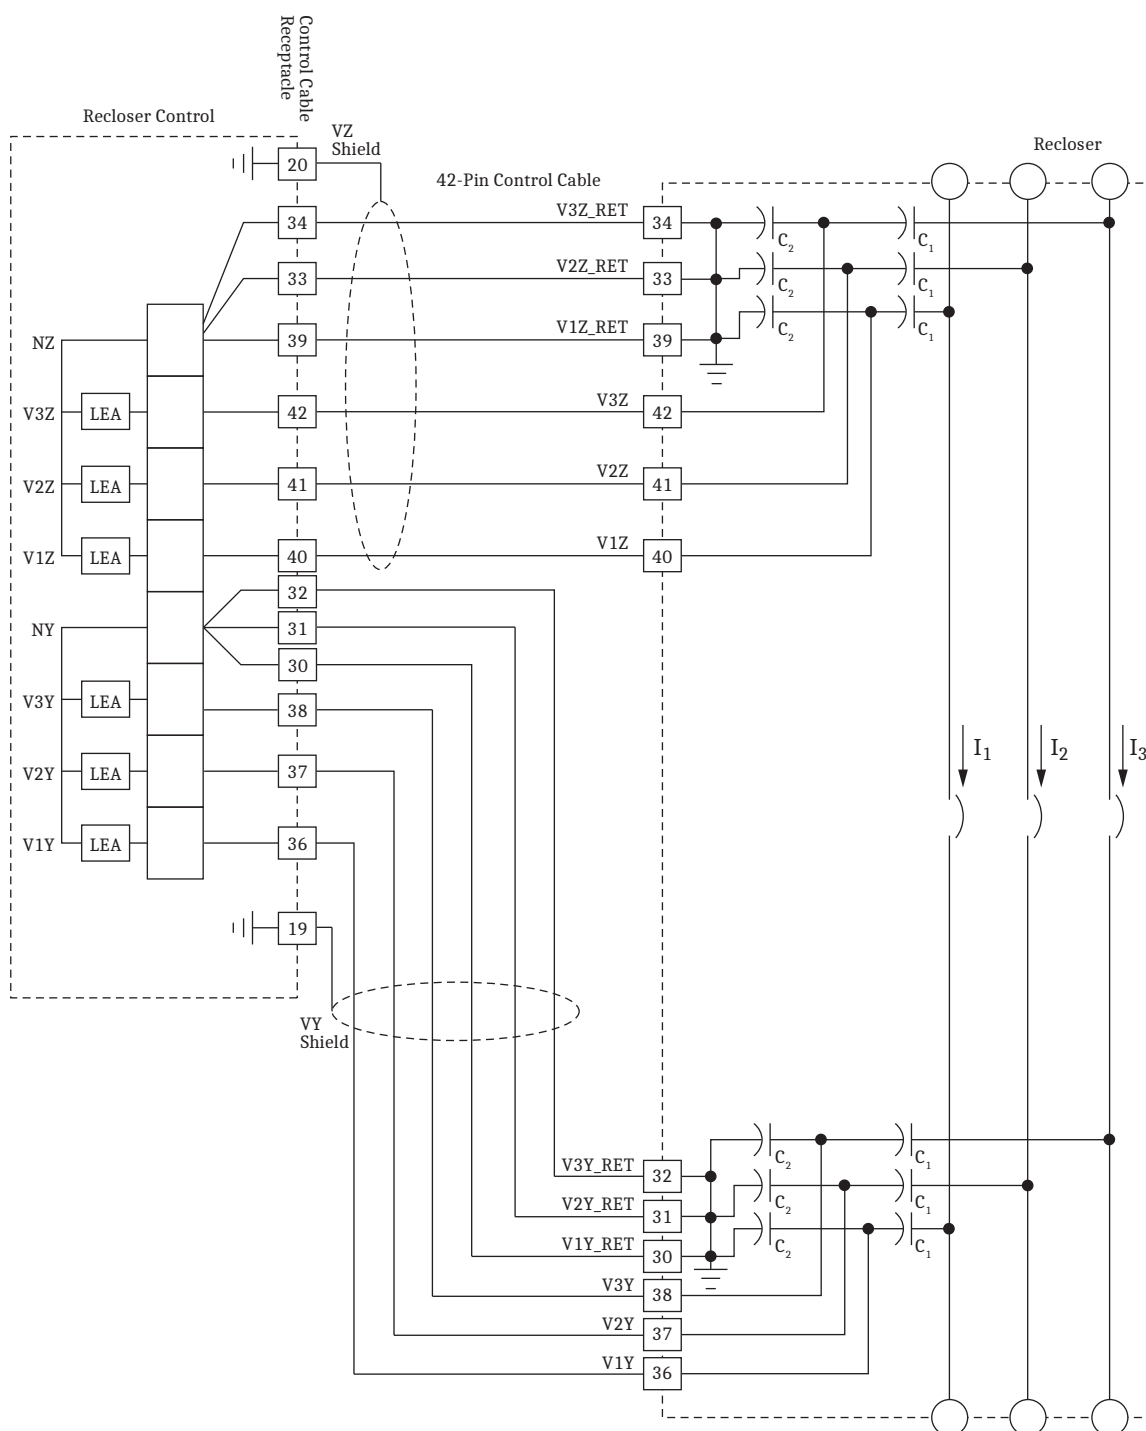
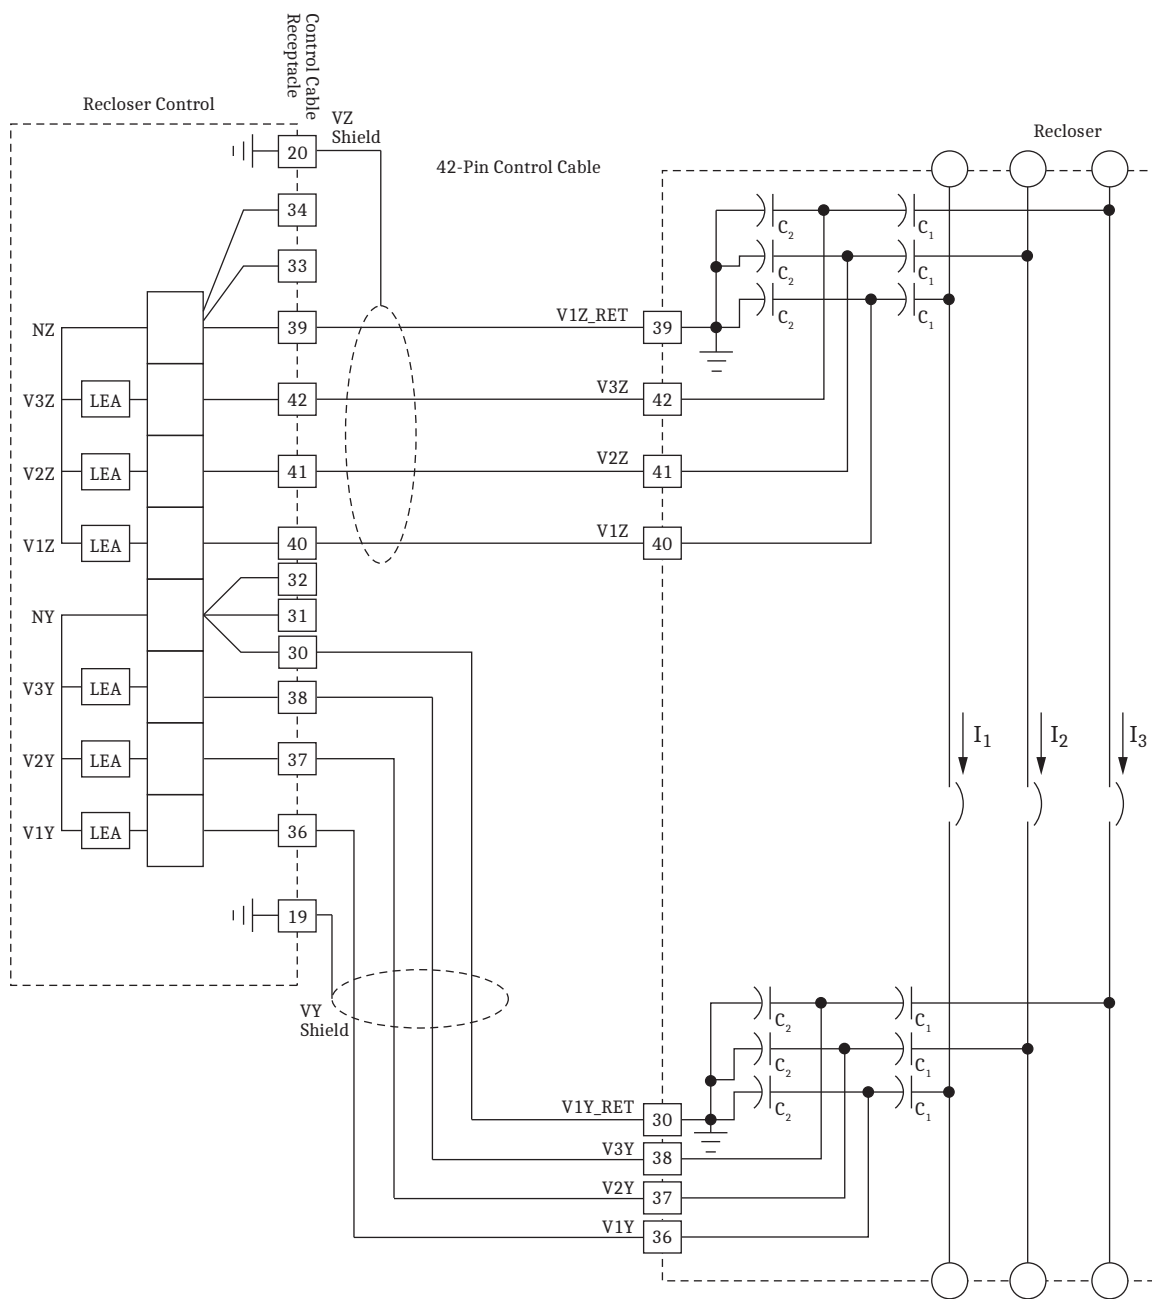

Figure 13 LEA Voltage Sensor Circuitry Connections
Figure 14 LEA Voltage Sensor Circuitry Connections for Combined Returns
The interface provides individual neutral/return paths for each of the six voltage signals. See *Figure 13* for a schematic depiction.
If neutral/returns are combined, the recommended combination is to combine each of the VY returns together and separately combine each of the VZ returns. If this is done, the pin designated as the Phase 1 return should be the single return point, one for VY (e.g., pin 30/V1Y_RET) and another for VZ (Pin 39/V1Z_RET). See *Figure 14* for a schematic depiction.
The control provides grounding points on Pin 19 and Pin 20, which are used for grounding the drain wires of the voltage signal cable EMI shields. Pin 19 is used for the VY-side wiring and Pin 20 the VZ-side wiring. See *Figure 13* and *Figure 14* for a schematic depiction of cable shield connections.
Figure 13 and *Figure 14* shows an example wiring diagram depicting LEA voltage sensor wiring, including signal, neutral/return, and shield ground points. Capacitive voltage dividers are depicted, but dividers need not be capacitive in nature.
- Pin 19 VY shield used to ground drain wires for LEA voltage signals; see *Grounding and Shielding for Voltage Signals* on page 15, *Figure 13*, and *Figure 14*
- Pin 20 VZ shield used to ground drain wires for LEA voltage signals; see *Grounding and Shielding for Voltage Signals* on page 15, *Figure 13*, and *Figure 14*